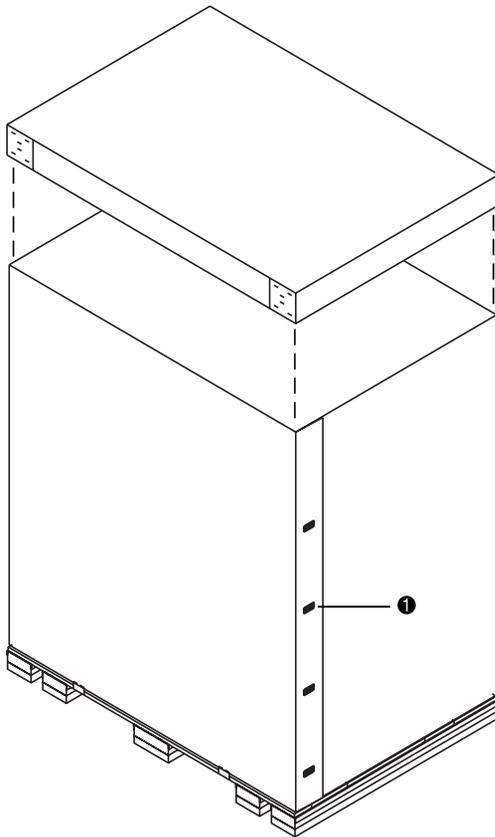

Figure 4-3: Removing the box top cover
4. Lift the top cover straight up and off the shipping container (see Figure 4-3).
5. Pull the eight retaining clips, on opposing corners of the shipping container, to their open position (❶ Figure 4-3).